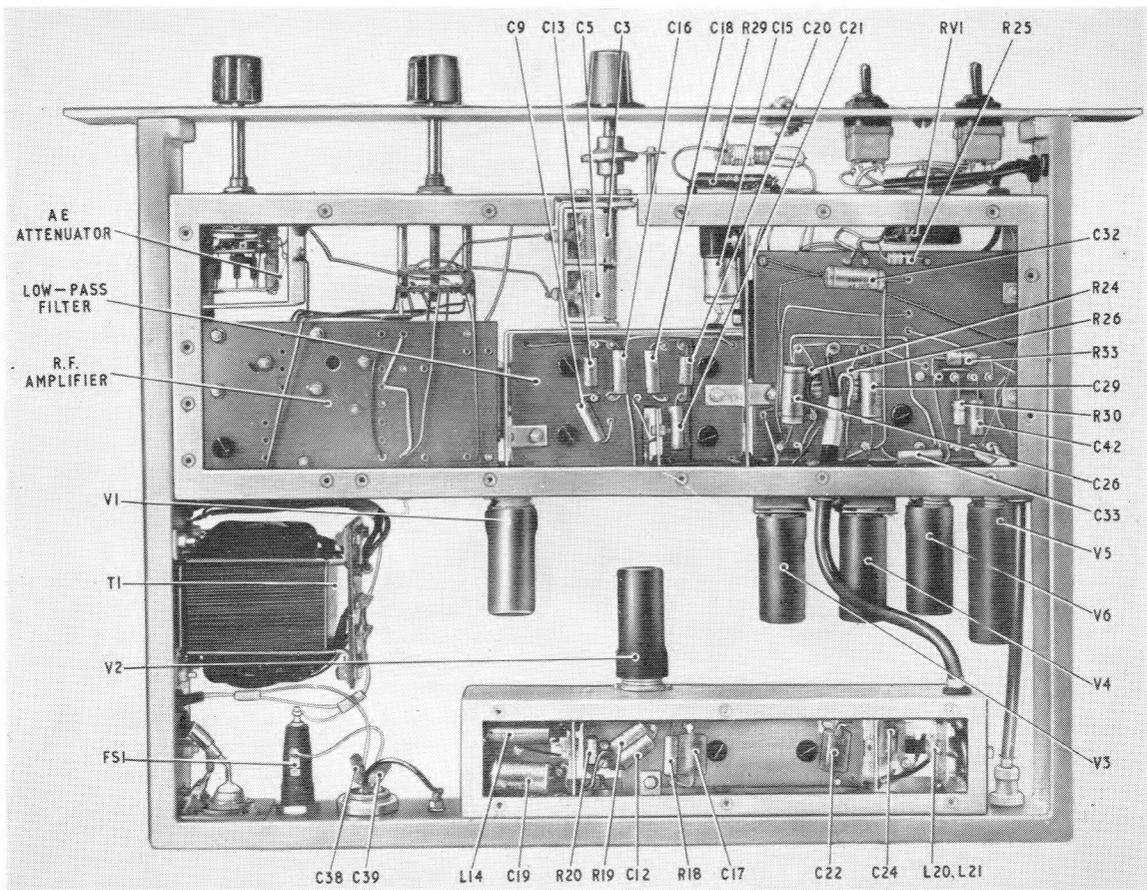

Fig. 2. Underside of chassis
23. Locate pin 6 of the valve V3 (*fig. 2*) (mounted adjacent to the balanced mixer sub-unit) and connect a valve voltmeter between it and a suitable earth.